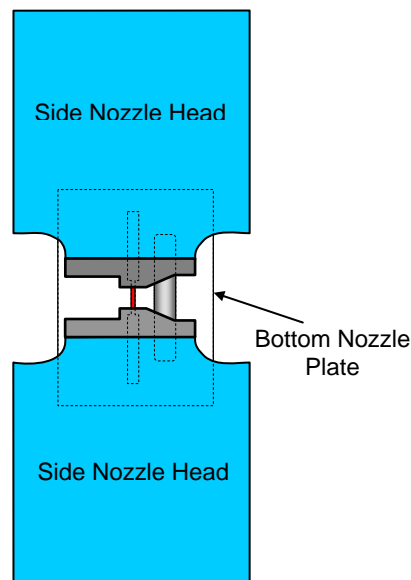

Figure 6
4. Repeat steps 3-5 until the side nozzles touch the narrow area of the hourglass at the same time. Snug the ballscrew set screw. See Figure 6.